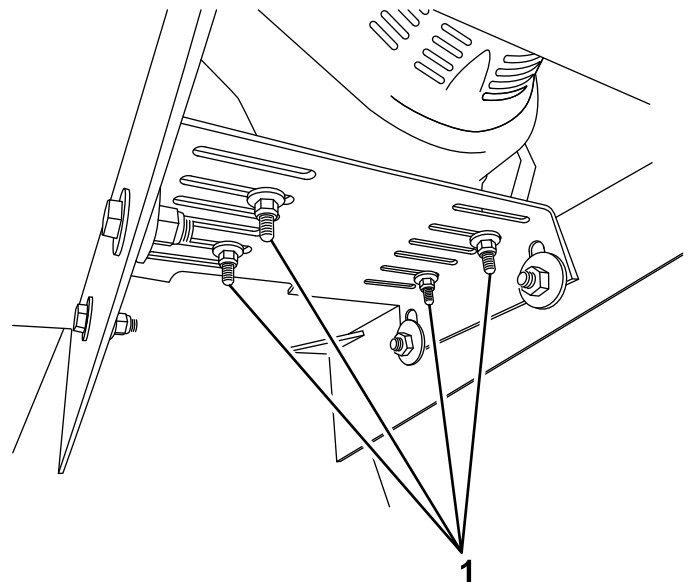

Figure 55
3. Loosen the 4 nuts and bolts that secure the engine to the engine mounting plate (Figure 55).
6. Torque the 4 mounting nuts and bolts to 24 N-m (18 ft-lb) each (Figure 55).